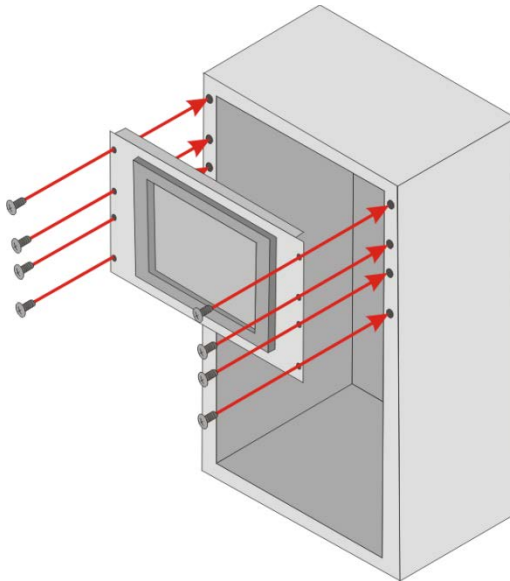

Figure 3-35: Install into a Rack/Cabinet
Step 5: Slide the LCD monitor with the attached rack/cabinet bracket into a rack or cabinet (**Figure 3-35**).
Step 6: Once the LCD monitor with the attached rack/cabinet bracket has been properly inserted into the rack or cabinet, secure the front of the rack/cabinet bracket to the front of the rack or cabinet (**Figure 3-35**).
Step 4: Once the LCD monitor with the attached rack/cabinet bracket has been properly inserted into the rack or cabinet, secure the front of the rack/cabinet bracket to the front of the rack or cabinet (**Figure 3-35**).